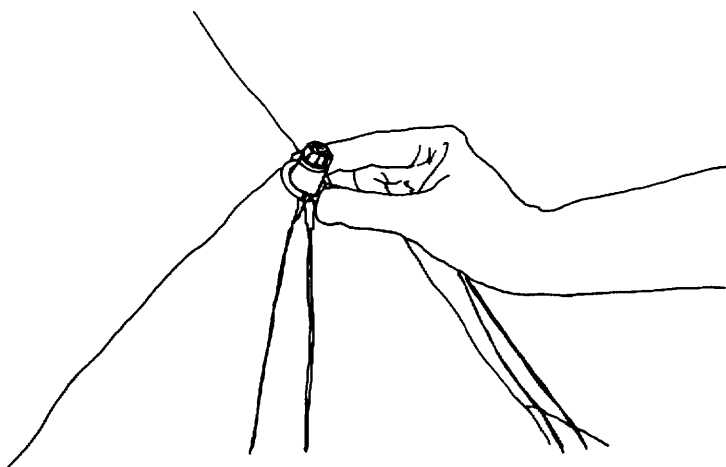

Fig 8
7) Lift the rubber protector and the bridle ring off of the kingpost base stud, and holding the ring and bridles behind the kingpost, install the kingpost onto the stud. (fig 8 and 9) Take care not to pinch the sail in the process. You must have the keel centered between the partially deployed leading edges in order to install the kingpost.